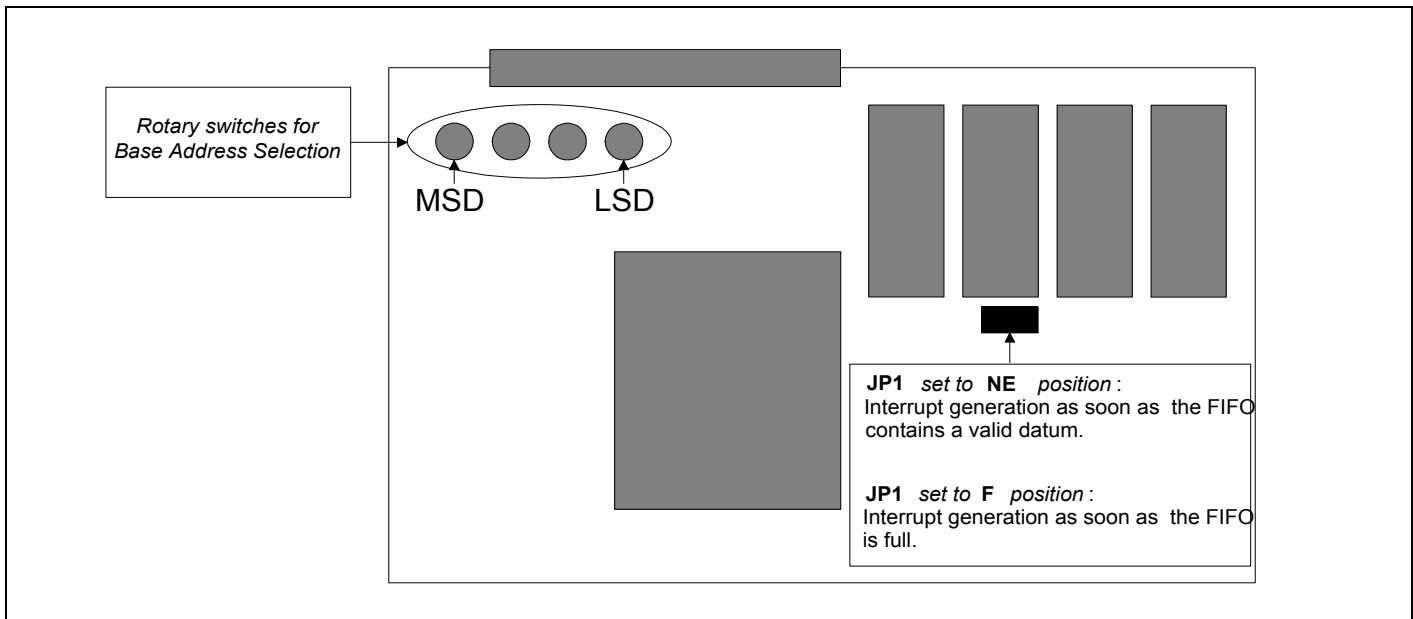

Fig. 3.1 – Rotary Switch and Jumper Position
The Model V 265 is an A24-D16 VME slave and it can be operated in Data Space, User or Supervisor mode. Before using the module it is necessary to select the module's Base Address (in a range from 0000XXH to FFFFXXH) and on which condition of the internal FIFO memory a VME INTERRUPT will be generated. For this purpose, the module's printed circuit board is provided with four rotary switches (Base Address selection) and a jumper labelled "JP1" (see Fig. 3.1).
2. Set the **JP1** internal jumper as required (see Fig. 3.1).